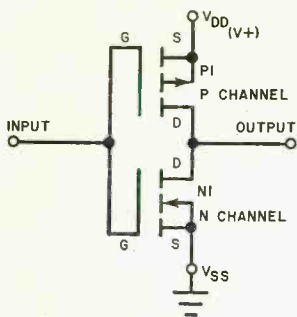

Fig. 1. Basic CMOS stage consists of an n-channel and a p-channel MOSFET. Input impedance is high; while the output impedance is low.
A CMOS amplifier stage is shown in Fig. 1. This is the most basic form of CMOS circuit and is functional as shown. Using just two transistors as an amplifier seems unusual; but, in fact, this circuit will serve in a variety of digital and linear applications, as we shall see later.
In Fig. 1, *PI* is the p-channel device, and *NI* is the n-channel part. This is an inverting amplifier with both units operating in the common-source mode so *PI*'s source goes to the supply, while *NI*'s source goes to ground. In MOS language,  $V_{DD}$  is the positive supply and  $V_{SS}$  the negative supply voltage. These are simply new terms—one for what we have previously known as  $V+$  and the other for the normal ground.
**CMOS in Digital Applications.** Digital use of an amplifier implies operation in a switching mode, an ideal application for CMOS. In the inverter of Fig. 1 for example, if the input is low or near ground,  $N1$  will be completely off and  $P1$  completely on. So  $P1$ 's resistance is at its lowest point of about 500 ohms, and  $N1$  is effectively an open circuit. Under these conditions, the output pulls up to  $V_{DD}$ , since it simply looks like a 500-ohm resistor to  $V_{DD}$ . So the high logic